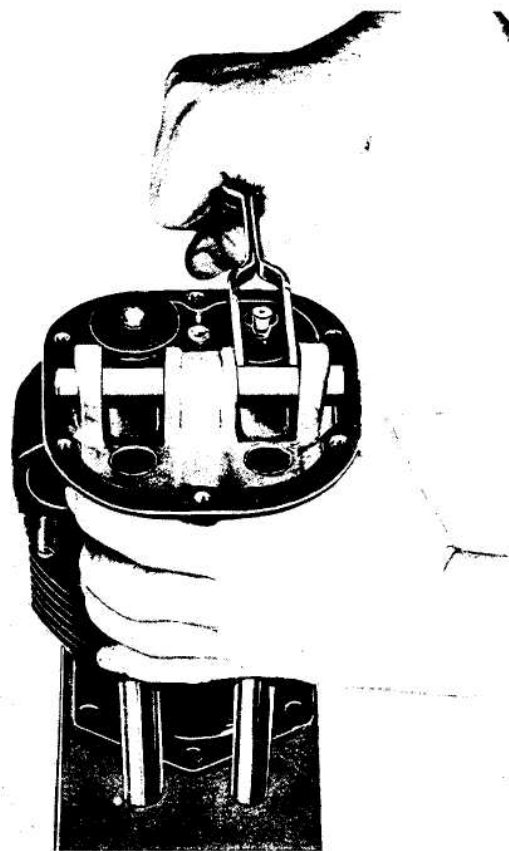

Figure 19. Compressing Valve Spring to Remove Locks
- d. With the lever compressor, depress either valve spring retainer enough to free the split stem lock, and lift out the two locks with long nose pliers, being careful to avoid binding in the stem groove and nicking the valve stem. (See Figure 19.)